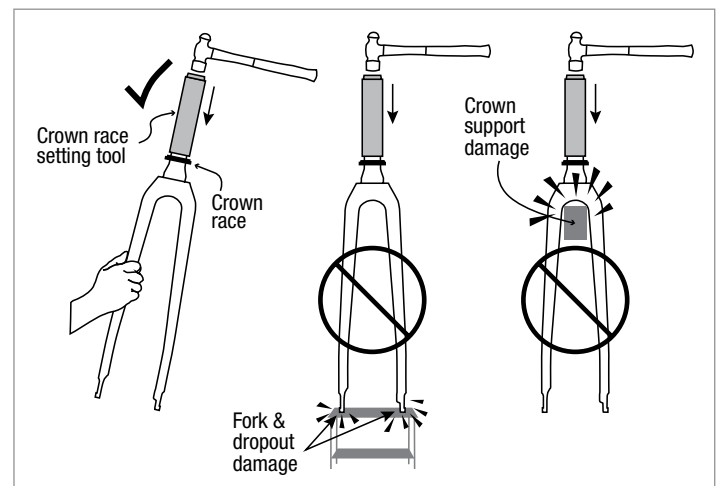
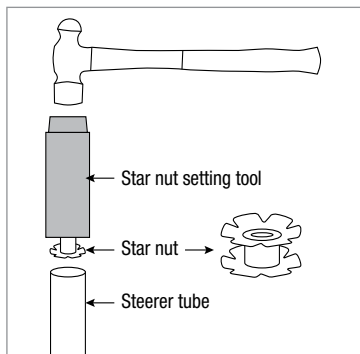

Figure 2
Figure 10
**▲ WARNING:** Do not place the fork on the dropout tips or support the fork in the crown area while installing the crown race. Doing so can damage the fork (Fig. 2).
- A. Hold the fork with one hand (Fig. 2) and install a new star nut using a star nut setting tool and hammer (Fig. 10).